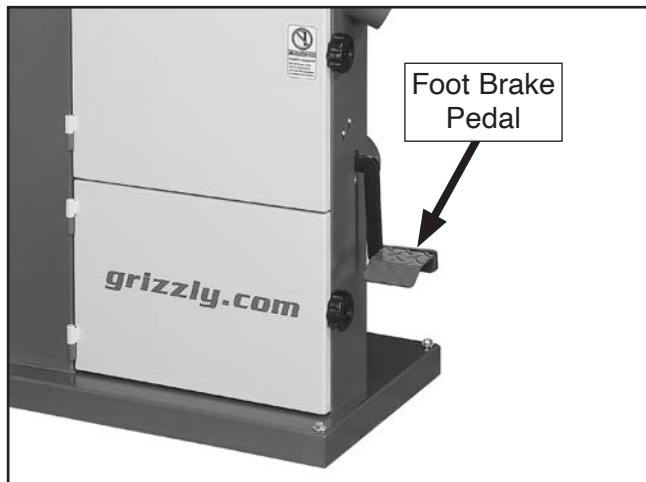

Figure 43. Location of foot brake pedal.
10. Allow motor to reach full speed, then step on foot brake pedal (see **Figure 43**). Blade should stop moving and motor should turn **OFF**.